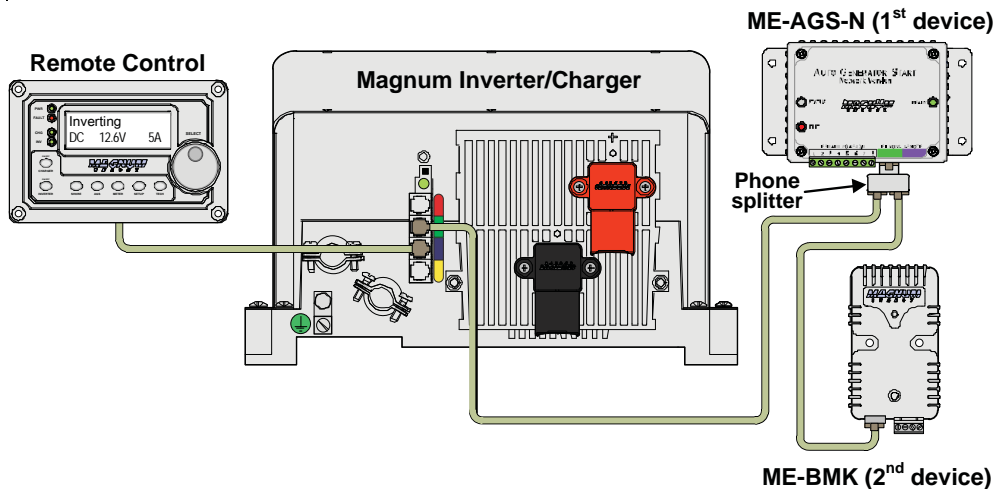

Figure 2-8, Multiple Network Devices – Daisy Chain Configuration
- **Daisy Chain Configuration** – In this arrangement, the network devices are linked in a series (Figure 2-8). If using this configuration, the ME-AGS-N must be the first device connected to the inverter's Magnum Net or Network port – followed by the second network device.